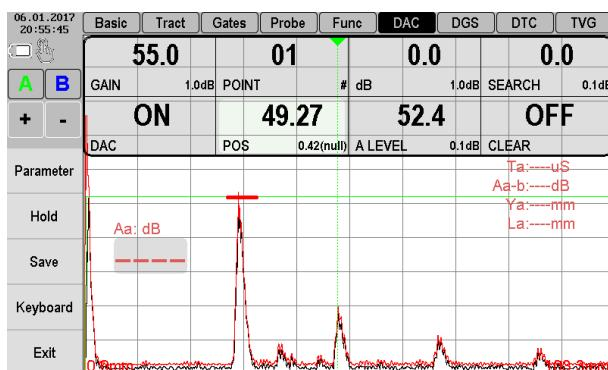

Figure 2.54 – Setting the position for the second reference DAC point
11. Select point number 01 for the second reflected signal and set its position («POS») on the peak of the signal on A-scan (Figure 2.54).